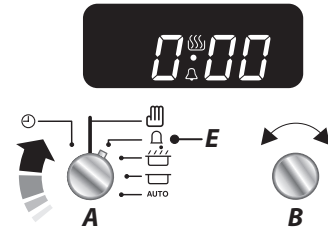

Fig. 3.2
1. Turn the **Timer (A)** knob to the **Minute Minder (E)** setting – it should click into position (**Fig. 3.2**).